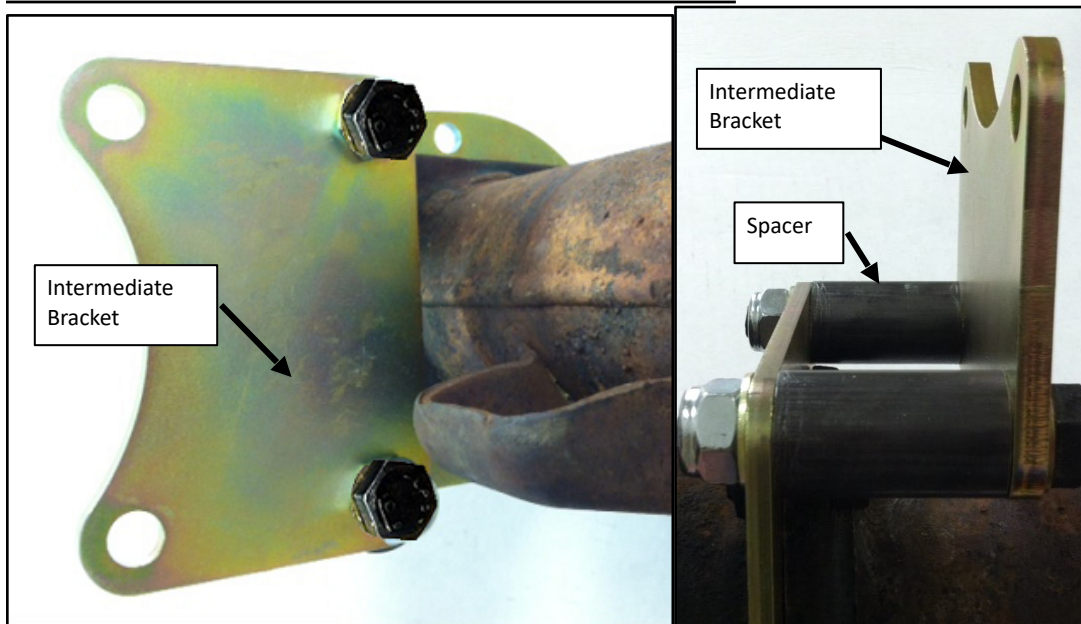

Figure 3: Intermediate bracket (representational only)
8. Install the intermediate bracket using the supplied bolts, washers, nyloc nuts, and steel spacers. Torque each bolt to 85 ft-lbs. See Figure 3 for reference.